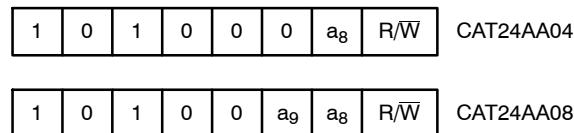

Figure 3. Slave Address Bits
The Master addresses a Slave by creating a START condition and then broadcasting an 8-bit Slave address (Figure 3). The four most significant bits of the Slave address are 1010 (Ah). The next three bits from the Slave address byte are assigned as shown in Figure 3, where a_9 and a_8 are internal address bits. The last bit, R/\bar{W} , instructs the Slave to either provide (1) or accept (0) data, i.e. it specifies a Read (1) or a Write (0) operation.